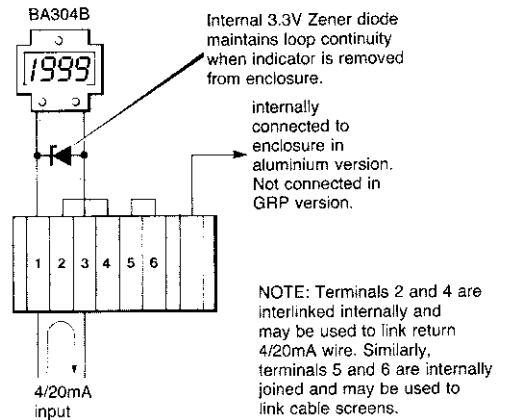

Figure 9 Terminal connections.
- vi Connect the field wiring to the terminals as shown in figure 9. The version in an aluminium enclosure is provided with an earth terminal which is internally connected to the enclosure die-casting. This terminal should be connected to a local earthing point to ensure personnel safety. This earth connection is not associated with the intrinsic safety of the indicator.